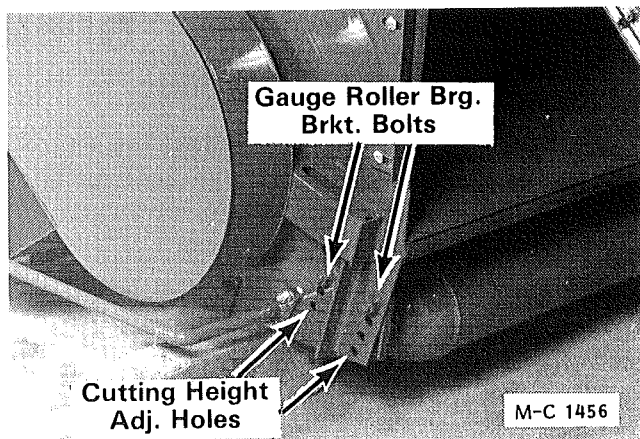

Figure 12
1. The cutting height is established by the caster wheels and the gauge roller. There are three bolt adjustments for the caster wheel brackets that correspond with three adjustments on the gauge roller, see Figure 12.